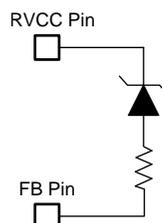

Figure 8. Circuit I to Avoid Optocoupler Saturation
1. Add a Zener diode and a series resistor between the RVCC pin and FB pin as shown in Figure 8. The Zener diode voltage should be selected as RVCC typical voltage minus FB typical voltage. In normal operation, there will be very little current flowing through the Zener but when FB voltage begins to decrease, it will provide extra current to prevent FB voltage drop. For example, a 6.1-V Zener diode and 10-k Ω resistor is used in the UCC256301 EVM.